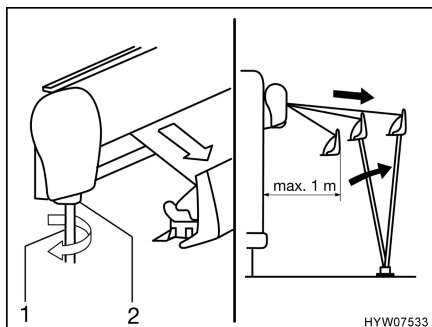

Fig. 10 Extend awning
- Insert the crank (Fig. 10,1) in the bayonet socket (Fig. 10,2) of the awning and turn in an anticlockwise direction. The awning begins to extend after a few rotations.